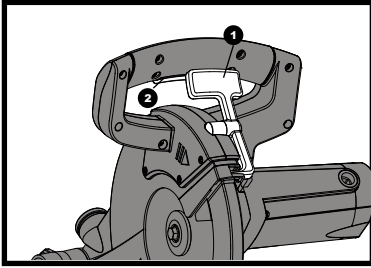

Fig 25
Push down the lock lever (1) and squeeze the trigger switch (2) to turn the mitre saw ON. Release the trigger switch to turn the saw OFF. (See fig. 25)